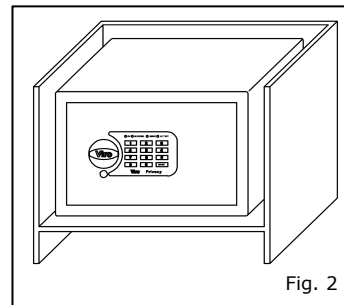

Fig. 2
Free standing safes can be wall mounted by using dowels, fixed on a plane surface, for example into a piece of furniture (see Fig. 2) or wall mounted using anchoring kit (item 4500.0758). **N.B. : for free standing safe wall installation it is necessary to follow same instructions as per wall safes.**